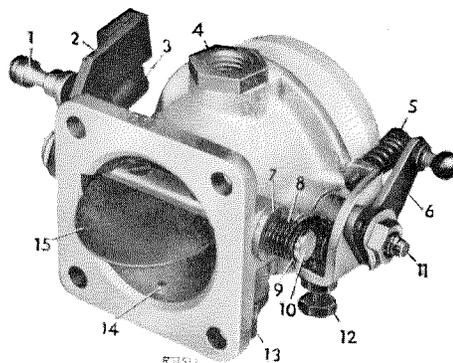

Figure 07-23/1
Check the seat of the air nozzle and of the additional venturi pipe, observing the correct screw-in depth of the air nozzle (Figure 07-23/2). Dimension *b* should be 5.7 ± 0.2 mm for the OM 636 and 4.5 ± 0.2 mm for the OM 621. The bore of the air nozzle *c* is 5 mm for all types. The first version of the the air nozzle for the OM 636 had a bore of 3.5 mm, which is no longer installed today. A variation of the measure *b* or bore diameter of the nozzle influences the governing which results in incorrect adjusting values.
Check the mounting flange of the throttle duct. If necessary, level contact surface on a surface plate. The full-load stop screw (5) must at first be so adjusted that the throttle butterfly is tilted approx. 5 deg in full throttle position; it should not be completely opened. This tilting allows a subsequent adjusting of the max. full load speed and the max. no-load speed (see Figure 07-23/1).